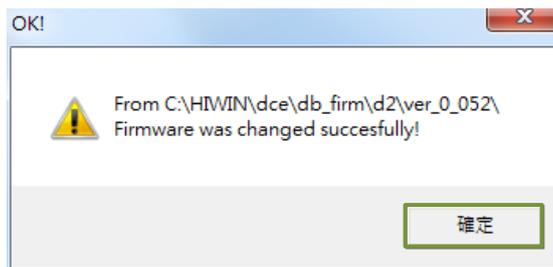

Figure 12.1.8
Step 5. After the update is completed, the message window of Figure 12.1.8 will appear. Click the "Conform" button.